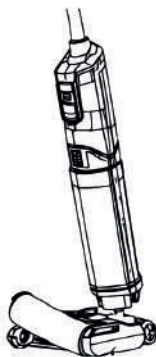

Fig. 10
1. Insert the brush roller into the designated slot on the right side of the brush housing, ensuring the protruding end of the roller is properly aligned (see Fig. 10).